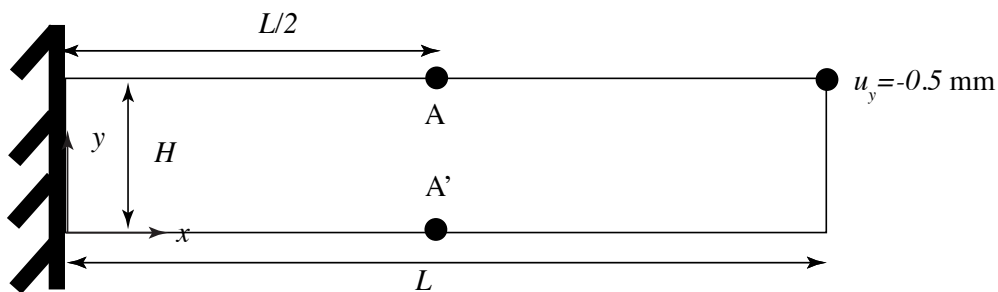

Figure 1: Cantilever beam
Apply the program to solve for the displacements of a cantilever beam bending problem loaded under gravity and a fixed displacement applied at  $x = L$  and  $y = H$  (Fig. 1) for different element sizes  $h$  and element types, bilinear vs. biquadratic (8 node and 9 node). The dimensions of the beam are  $L = 12\text{mm}$ ,  $H = 1\text{mm}$ ,  $B = 1\text{mm}$ . You will be analyzing beams of 2 different materials: 1) aluminum (Al) and polyurethane (PU). Write a report that includes the following items.
- (c) Calculate the error in the nodal displacement and nodal stresses at point A (Fig. 1) compared to the analytical results from Euler-Bernoulli Beam theory. Similarly pick an integration point closest to node A and calculate the error in the integration point stresses. Plot the log error vs the log of a characteristic element size. Compare between the two different element types and the effects of under integration for the higher order elements. Comment on your results.